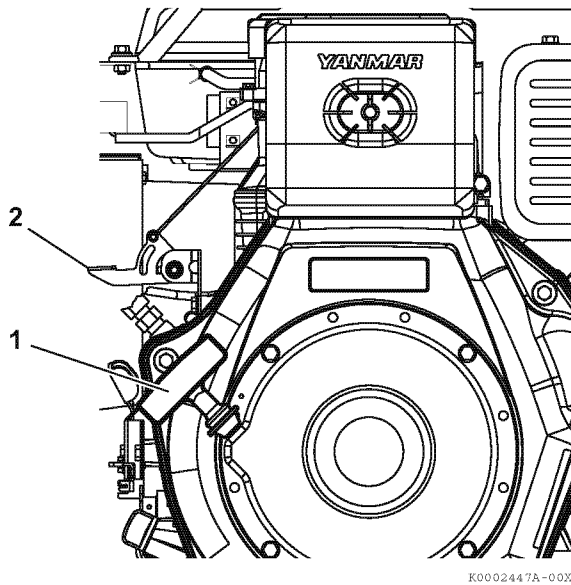

Figure 30
6. Grasp the recoil starter handle (1, **Figure 30**).
9. Push the decompression lever (2, **Figure 30**) down until it locks in place and then release it. The decompression lever will automatically return to the original position when the engine starts.
10. Grasp the recoil starter handle (1, **Figure 30**).